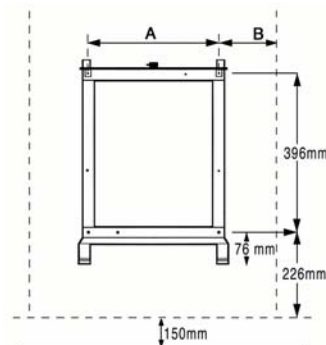

Fig. 2
- Mount the bracket on the wall using a minimum of 4 screws (max diameter 6mm) making sure that it is the correct way up and at the correct height. (see Fig.2)